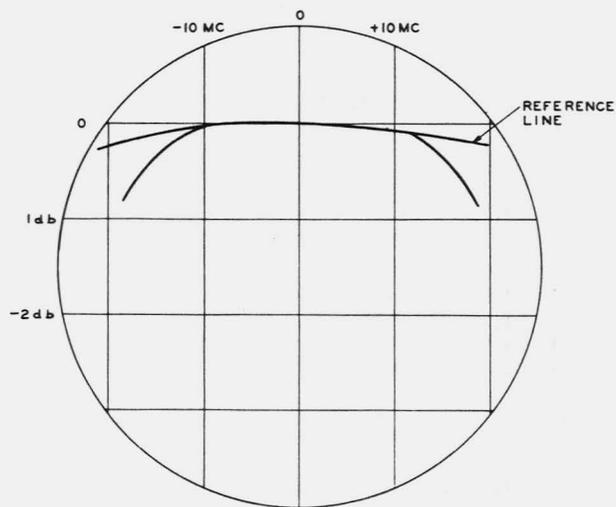

Fig. 21 - Typical Gain-frequency Characteristic of Transmitter Amplifier
- (9) Turn sweep to ON and adjust the horizontal scope gain to give a sensitivity of 10 mc per inch. Departures from coincidence of the two traces now represent departures from transmission flatness. A typical scope picture is shown in Fig. 21.